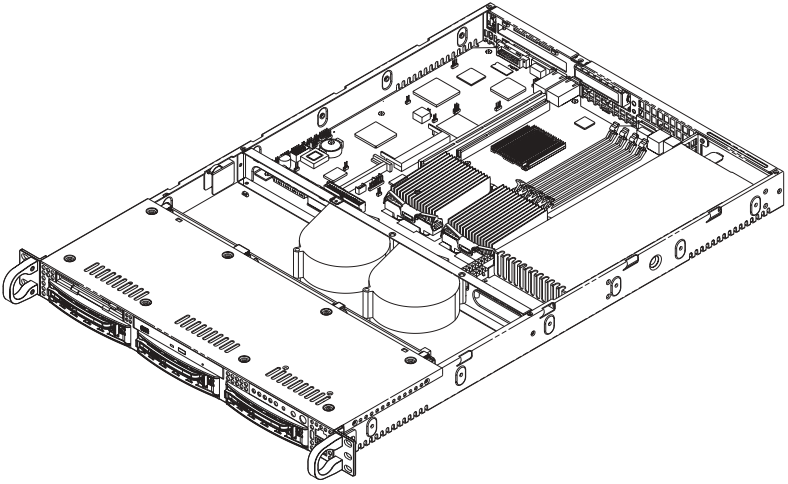

Figure 2-5. Accessing the Inside of the SuperServer 6013P-8
1. Accessing the inside of the 6013P-8 (see Figure 2-5):